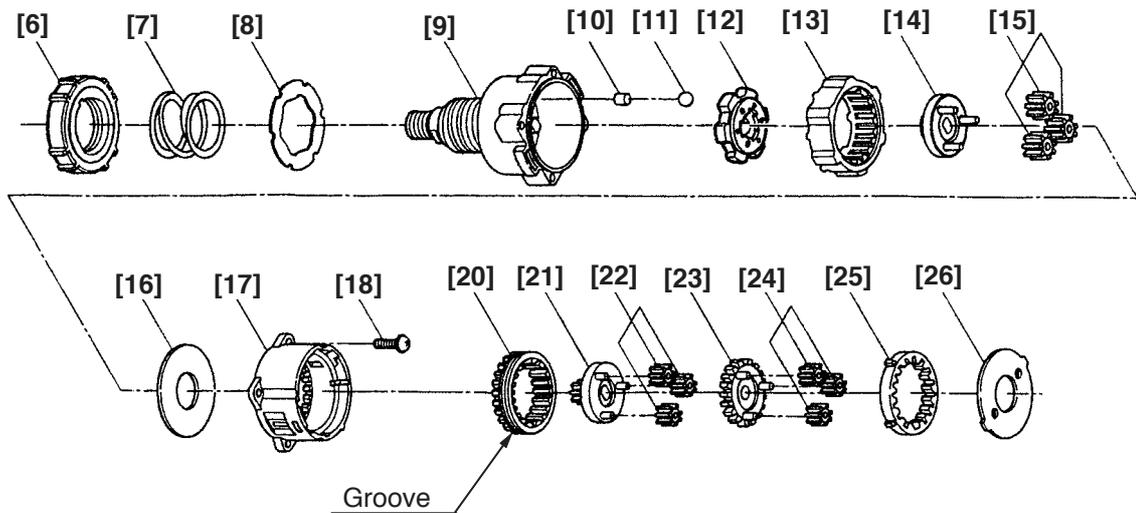

Fig. 7
Screw the Nut [6] in the Front Case [9] about one and a quarter turns. (See Fig. 7.)
(See Fig. 7.)
- (f) Install the Ring Gear [13] and Washer (B) [26] of Planet Gear (C) Set [15] into the assembly assembled in step (3) (e). (See Fig. 7.)